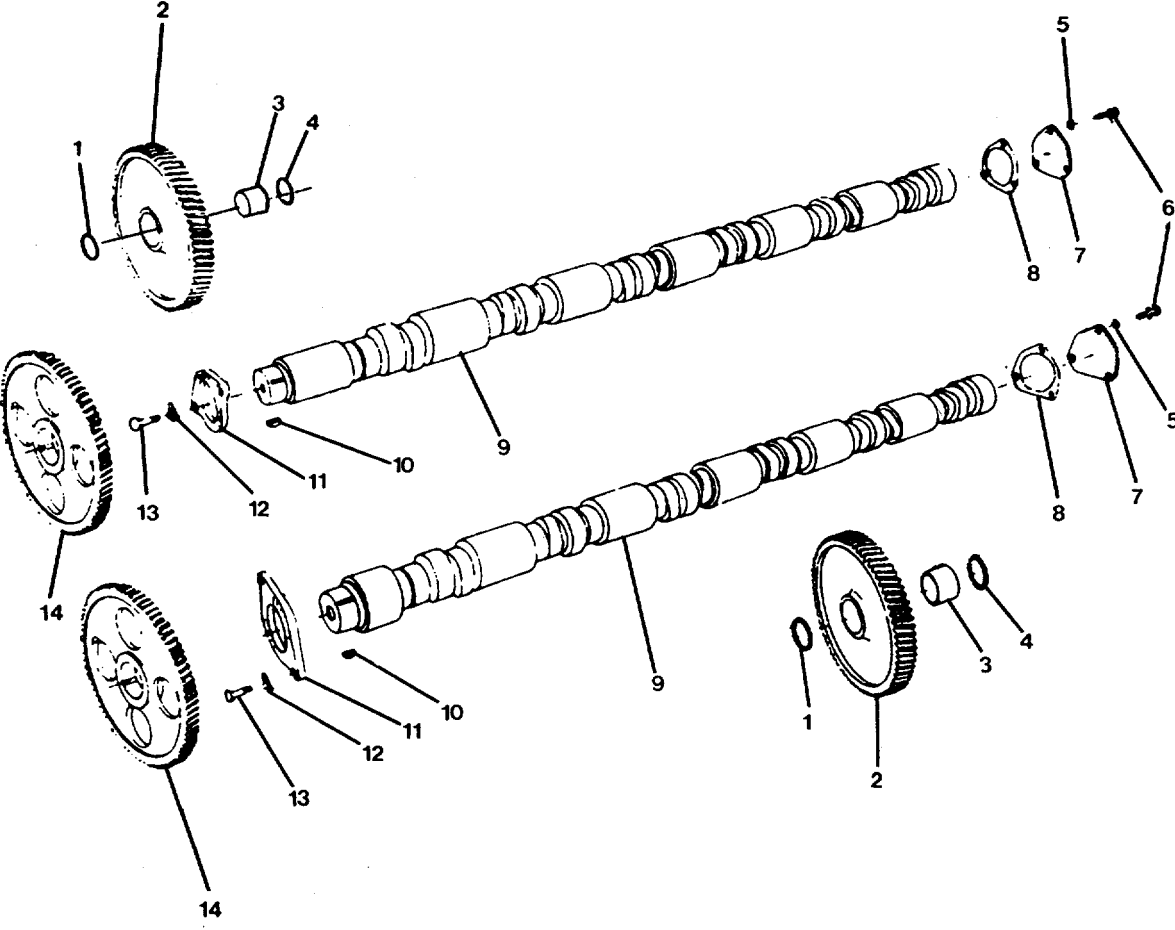
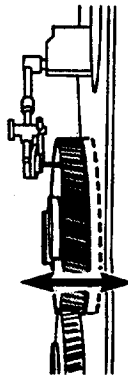

FIGURE 3-17. Camshaft Gear Group.
FIGURE 3-18. Camshaft End Clearance Measurement.
a. Remove rear access cover (7, FIG. 3-17).
- (1) Remove three hexagon head capscrews (6) and lockwashers (5) from each rear access cover (7).
- (2) Remove access covers (7) and gaskets (8). Discard gaskets.
b. Remove idler gears (2).
- (1) Use a dial indicator to measure camshaft end clearance (FIG. 3-18).
- (2) Use a hammer and a drift to bend the lockplates (12, FIG. 3-17) from the heads of the hexagon head capscrews (13).
- (3) Remove hexagon head capscrews (13) and lockplates (12) from shaft retaining plate (11).
- a. Replace camshaft (9, FIG. 3-17).
- (3) Install camshaft (9, FIG. 3-17) in the correct bank of the cylinder block. Using the pilot as a guide, rotate the camshaft clockwise and counterclockwise to assist in installation.
- (4) If necessary, rotate camshaft (9) until holes in gear (14) allow access to holes in retaining plate.
- (5) Install lockplates (12) and hexagon head capscrews (13). Tighten capscrews (13) to 35 ft-lb (45 N · m). Bend lockplates (12).
- (6) Remove camshaft pilot from the rear of camshaft (9). Install gasket (8) and camshaft rear cover (7). Install lockwashers (5) and hexagon head capscrews (6). Tighten to 30 ft-lb (40 Nm).
- (7) Repeat steps (1) through (6) for remaining camshaft if required.
- (8) Attach a dial indicator gauge to the housing and check the camshaft end clearance (FIG. 3-18). Verify end clearance is between 0.006 to 0.013 inch (0.15 to 0.33 mm) on both camshafts. If the end clearance is not within the limits, check for foreign material or a piece of gasket material between the shaft retaining plate (11, FIG. 3-17) and the block. If measurement is still out of tolerance, evacuate to intermediate general support and check shaft retaining plate thickness.
- (9) Replace front and rear camshaft covers using new gaskets. Tighten capscrews alternately and evenly to 30 ft lb (40 N · m).
- b. Replace idler gears (2, FIG. 3-17).
- (2) Lubricate bushings (3, FIG. 3-17) and idler shafts with Lubriplate.
(3) Install gears (2). Align the timing marks.